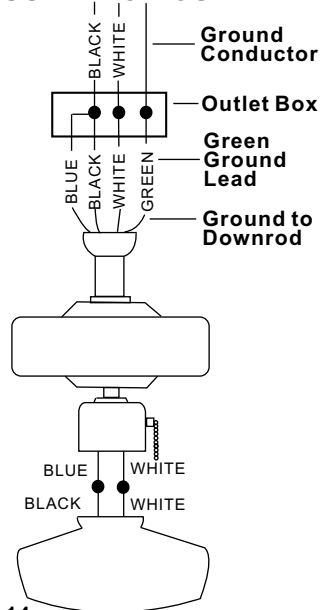

Figure 14
Step 1 Connect the fan supply (black) wire and light supply (blue) wire to the black household supply wire as shown in Figure 14.